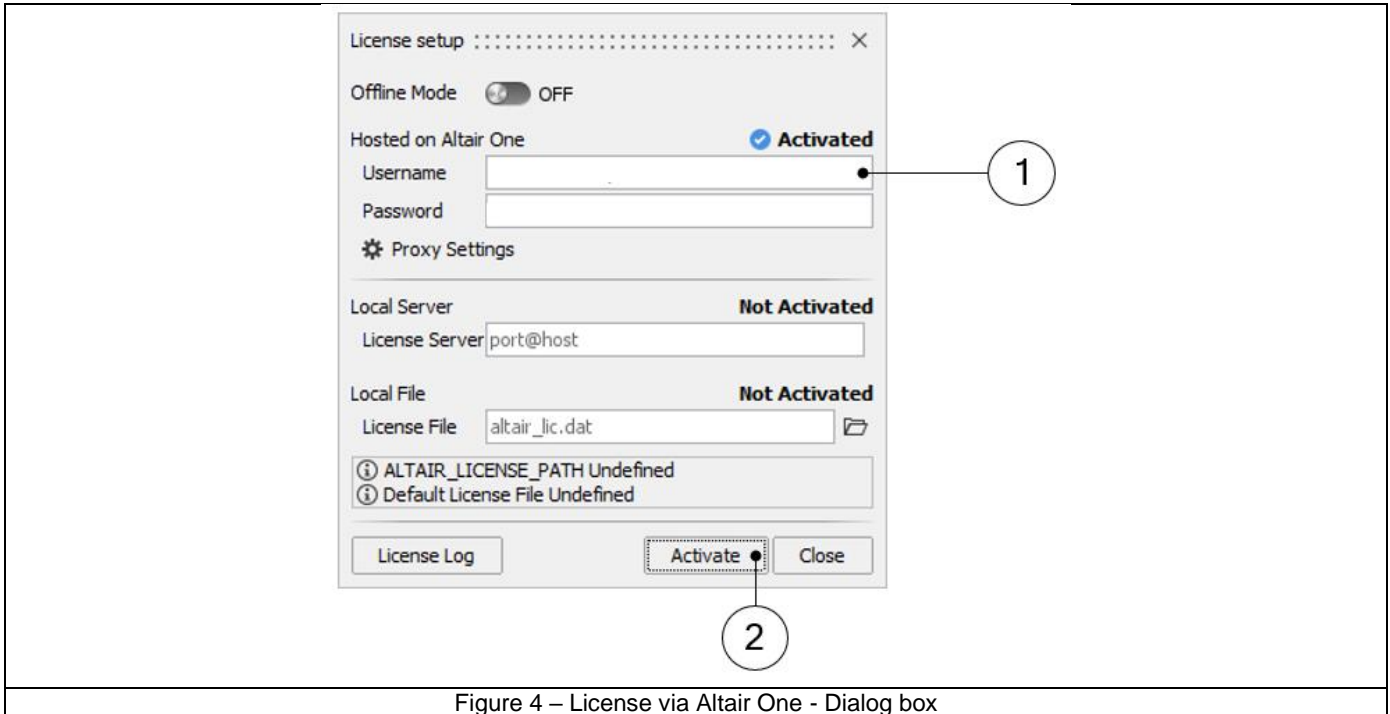

Figure 4 – License via Altair One - Dialog box
- 2) Enter the Username and Password you created for your Altair One™ account (Mark 1 - Figure 4 – License via Altair One - Dialog **box**).
- 3) Click on the Activate button (Mark 2 - Figure 4 – License via Altair One - Dialog **box**). The status changes to “Activated” when the license is validated, or you will receive an error message if unsuccessful.